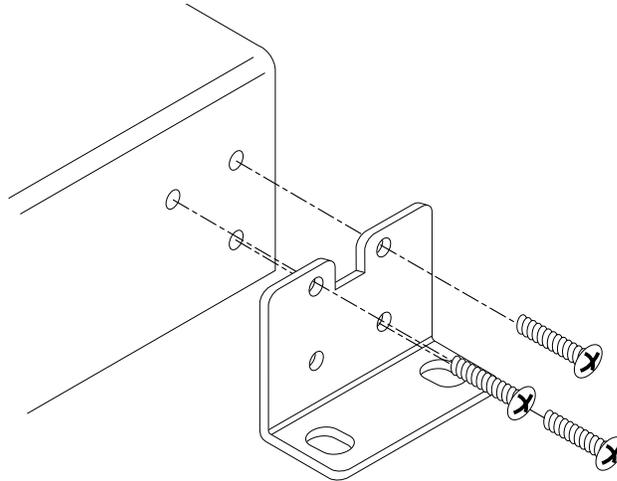
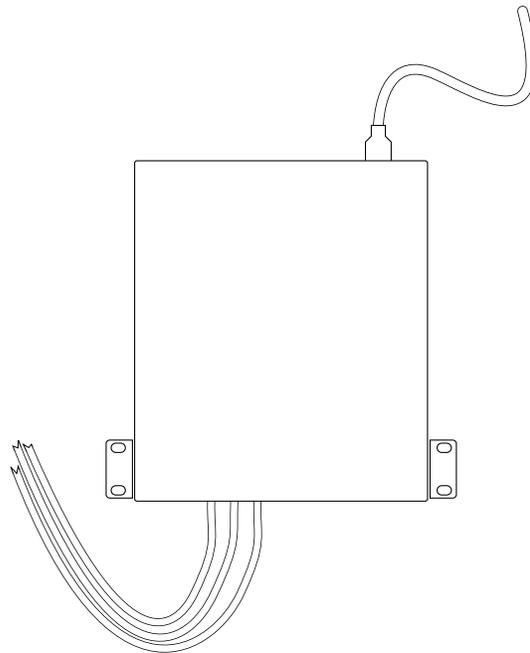

FIGURE 2-3 Positioning Brackets for Wall Mount
FIGURE 2-4 Wall Mounted SunSwitch
- To mount the unit to a wall, connect the mounting brackets and mount the switch as shown in FIGURE 2-3 and FIGURE 2-4.